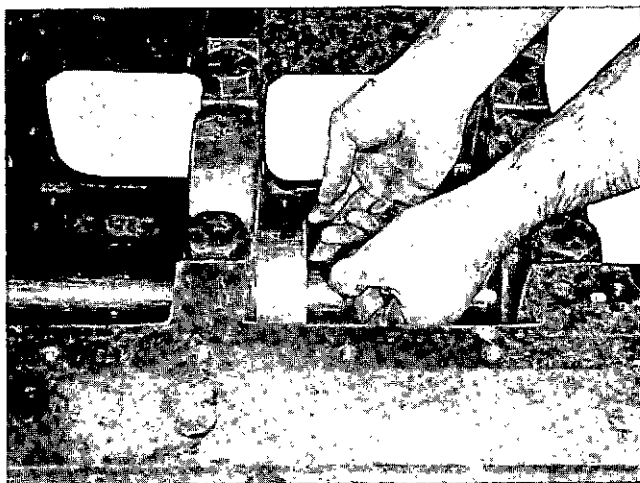

Fig. 1-1-17, V40187. Checking main bearing bore with ST-1177
10. Using light finger pressure against checking ring on both sides of bar, push checking ring through each bore. Fig. 1-1-17. Bar must be turned during this check.